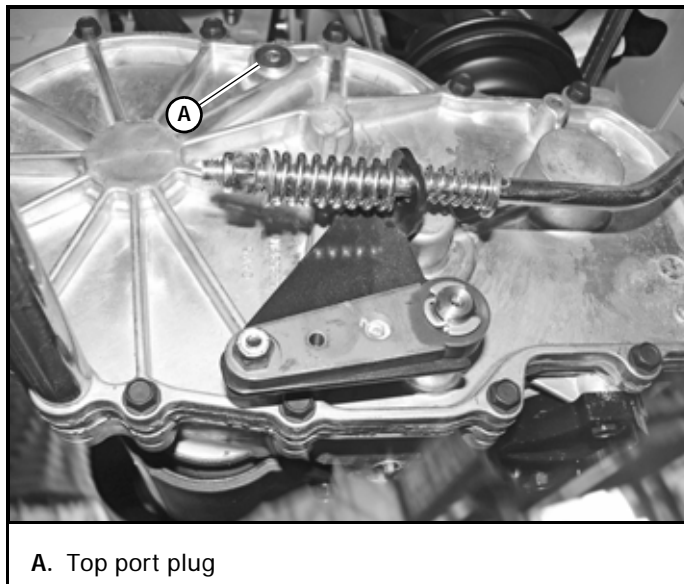

Figure 4-15
- IMPORTANT:** Remove the top port plug from both transaxles prior to filling with oil. This will allow the transaxles to vent during oil fill. Figure 4-15
- Fill with **SAE 20W50 motor oil, 15W50 synthetic oil or 20W50 synthetic oil (Hustler® Full Synthetic 20W50 Hydrostatic Transmission Oil is recommended)** until oil just appears at the bottom of each transaxles top port (approximately 2 qts. per transaxle). Install the top port plug into each transaxle. Torque plugs to 180 in-lbs. Clean up any oil that leaked from the ports. Figure 4-15